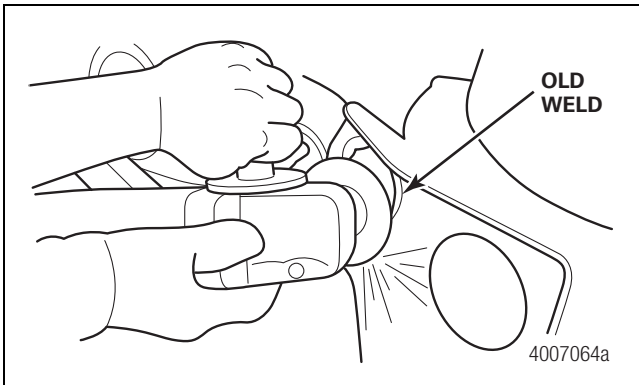
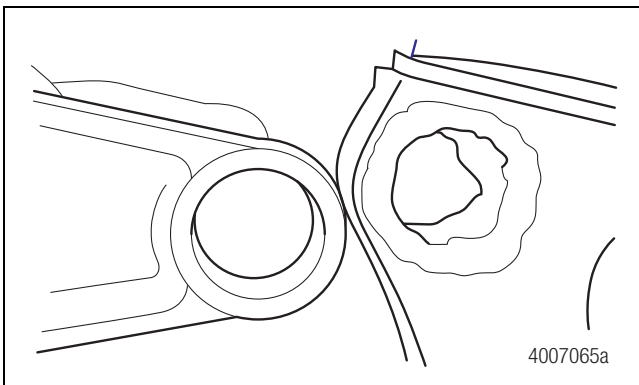

Figure 11
Figure 12
- Use a 4- or 5-inch grinder to remove the old weld from the outside and inside of the axle seat where the bushing would be located. Figure 11 and Figure 12.